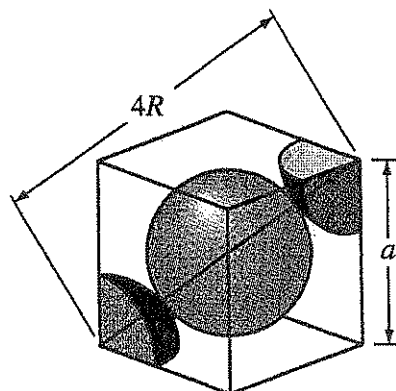

Figure 1
- (b) Define a crystal structure and elaborate the **THREE (3)** examples of common metal crystal structures. (8 marks)
- (c) Figure 1 shows an iron unit cell relationship between the lattices constant a and the atomic radius R . Iron at 20 °C is have a BCC crystal structure with atomic radius of 0.124 nm. By referring to Figure 1, determine